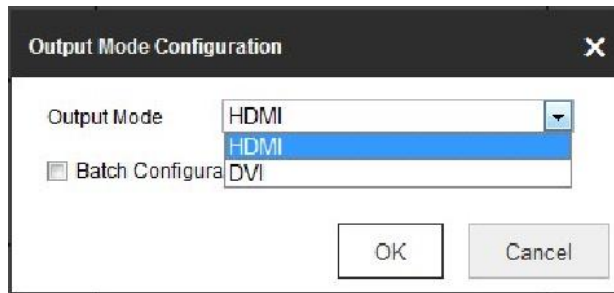

Figure 4-32 Output Mode Configuration
Step 5 Select **Output Mode Configuration** to pop up the interface as Figure 4.32. The output mode is with HDMI and DVI available. Check the checkbox of **Batch Configuration** to set the same configuration for other HDMI outputs.